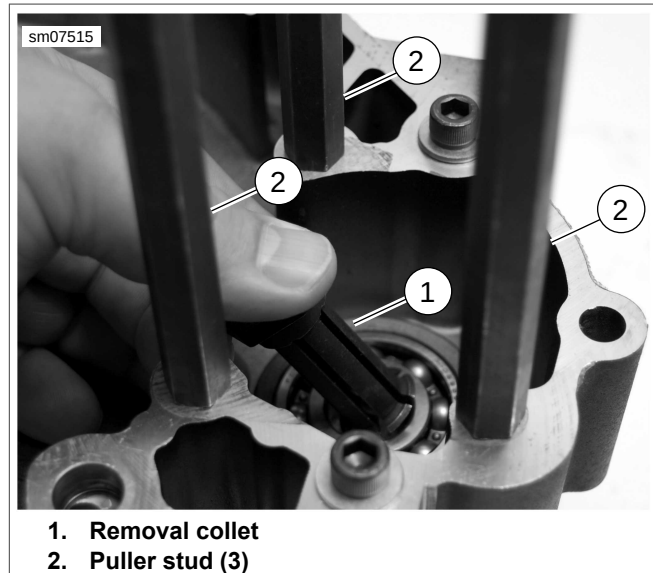

Figure 3-153. Bearing Removal Collet
1. See Figure 3-153. Install puller studs (2) and REMOVAL COLLET (Part No. HD-48457-6) (1).